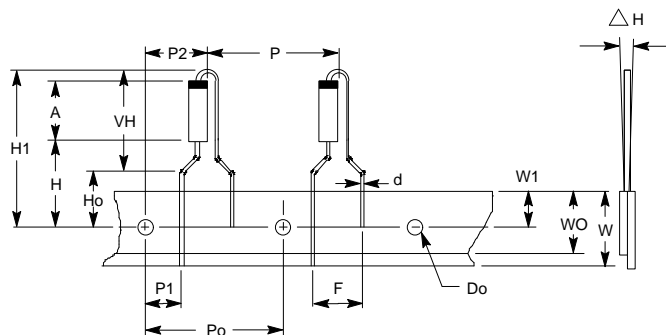

Figure 5
2. Defective components shall be clipped from the carrier tape such that the remaining protrusion (L) does not exceed a maximum of 11 mm.
3. Component lead to tape adhesion must meet the pull test requirements established in Figures 5, 6 and 7.